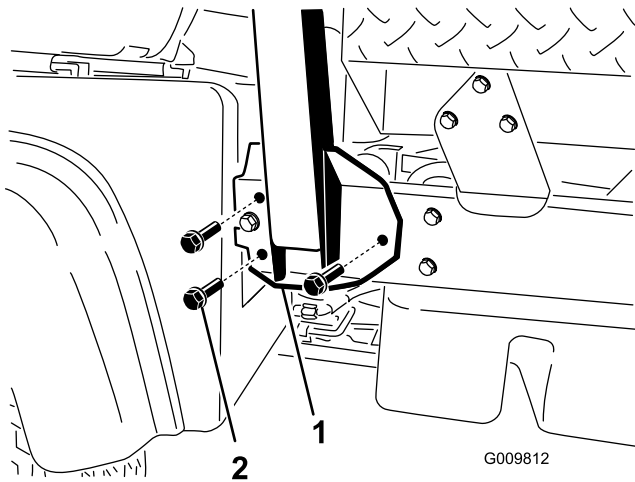

Figure 4
1. Align each side of the ROPS with the mounting holes in the frame at each side of the vehicle as shown in Figure 4.